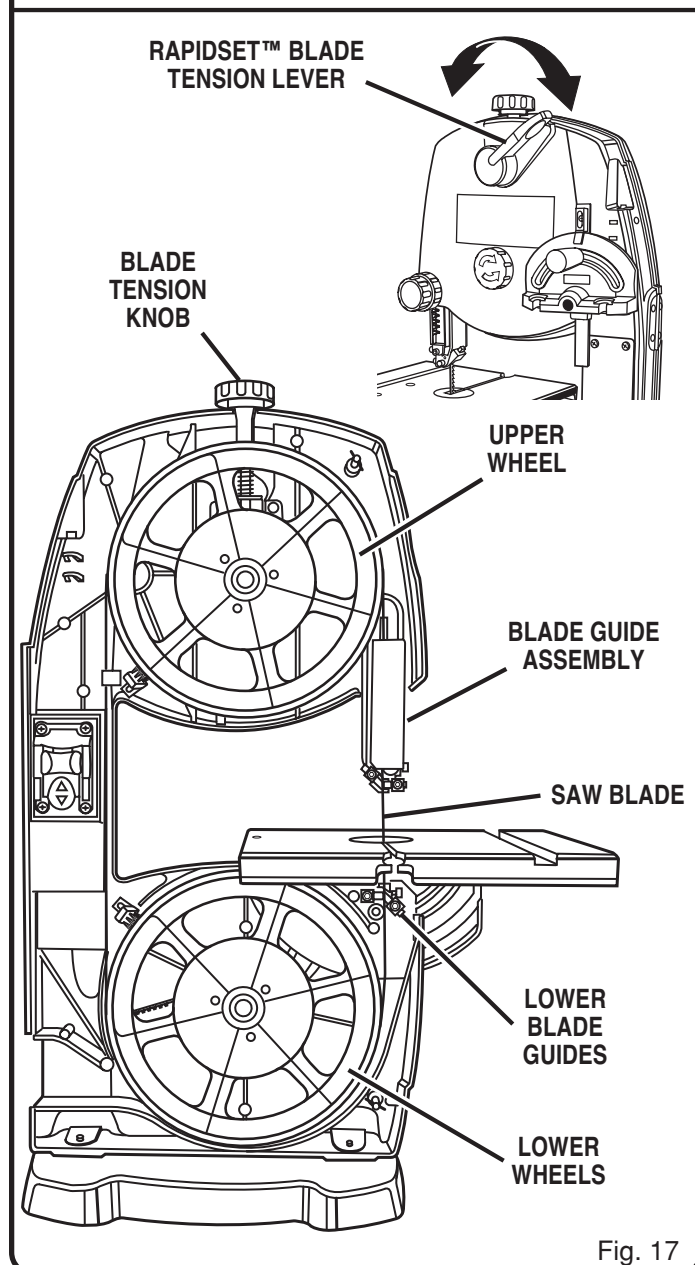

Fig. 17
- Release blade tension by pushing the RapidSet™ blade tension lever to the left. See Figure 17.